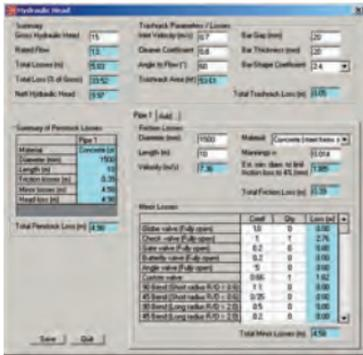

Figure 7.3 The Hydraulic Head screen for detailed headloss calculations
- If you wish to enter detailed information to calculate the nett head choose **Include friction and minor losses**. This allows you to estimate the headlosses for individual hydraulic components; an inlet trashrack, penstock sections and minor losses. You will need to enter data on the **Define Head Losses** screen (Figure 7.3) which consists of a number of panels described below: